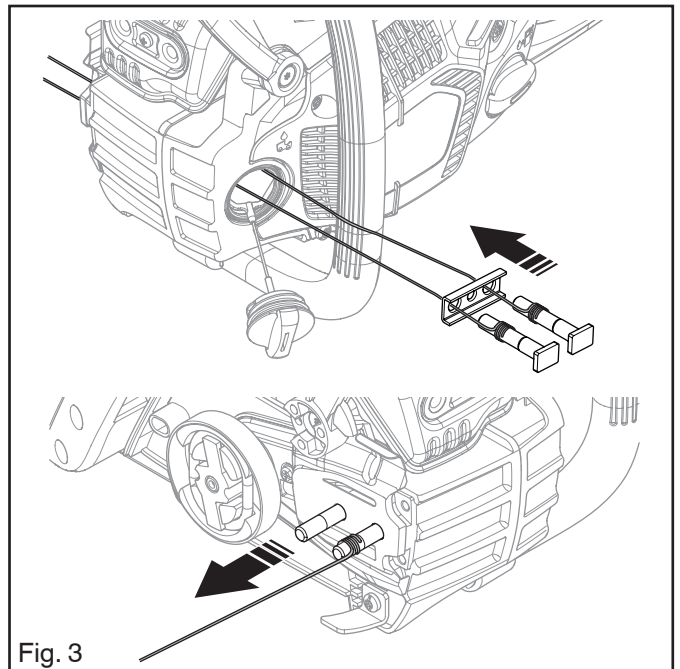

Fig. 3
1. Secure steel wire to the outer part of the new bar bolt, thread the steel wire through the oil tank and out through the bolt hole. See Figure 3.
2. Pull the steel wire so the bolt comes out of its hole. See Figure 3.